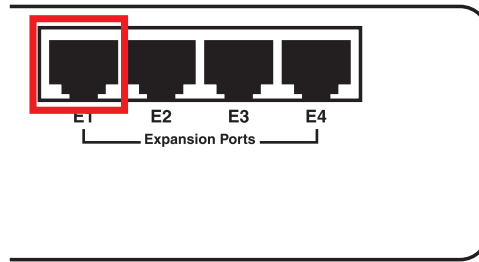

Figure 3-1. E1 port.
1. Connect the cable to your chosen port. See Figure 3-1.